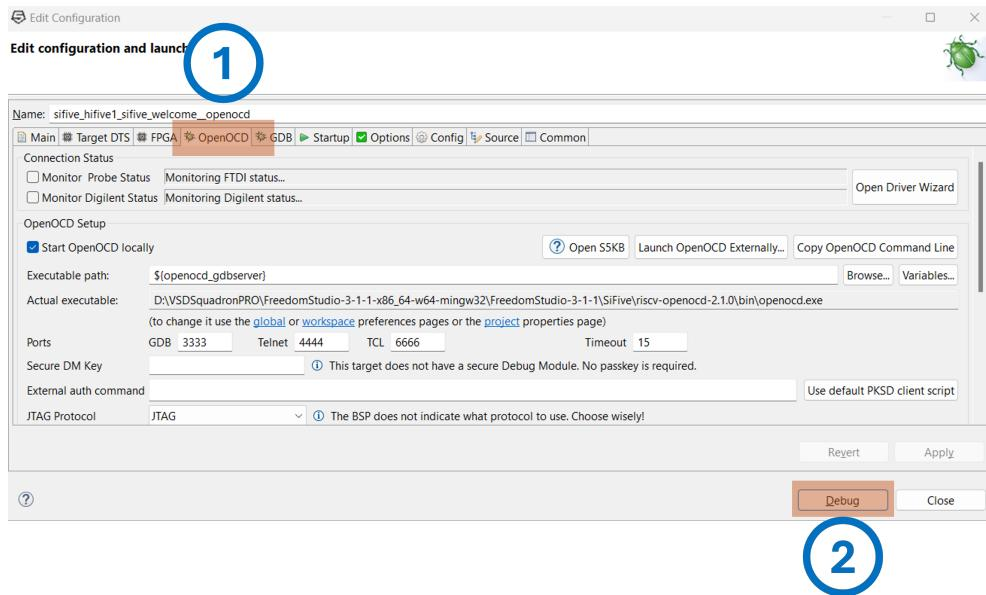

Figure 10: Steps to open debug session using OpenOCD
- Once you click the "Debug" button from above step, you would see the "Debug Configuration" window. Connect VSDSquadron PRO board to your laptop, click on "OpenOCD" tab and then click on "Debug". See Figure 10 for more details